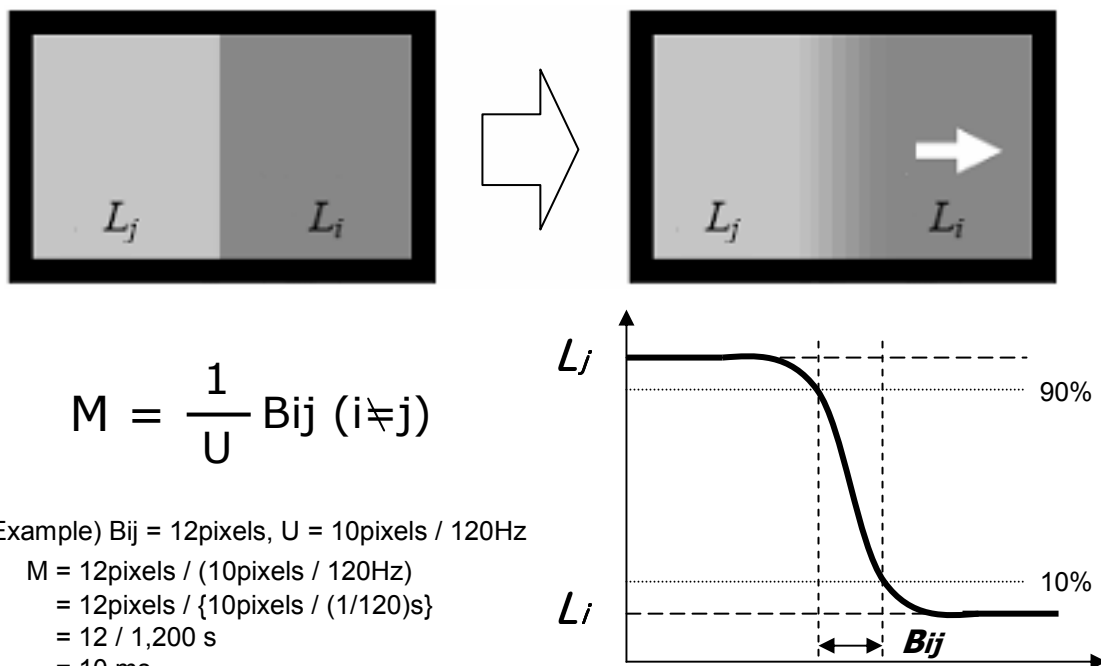

FIG. 3 MPRT
4. MPRT is defined as the 10% to 90% blur-edge width  $B_{ij}$ (pixels) and scroll speed  $U$ (pixels/frame)at the moving picture. For more information, see FIG 3.